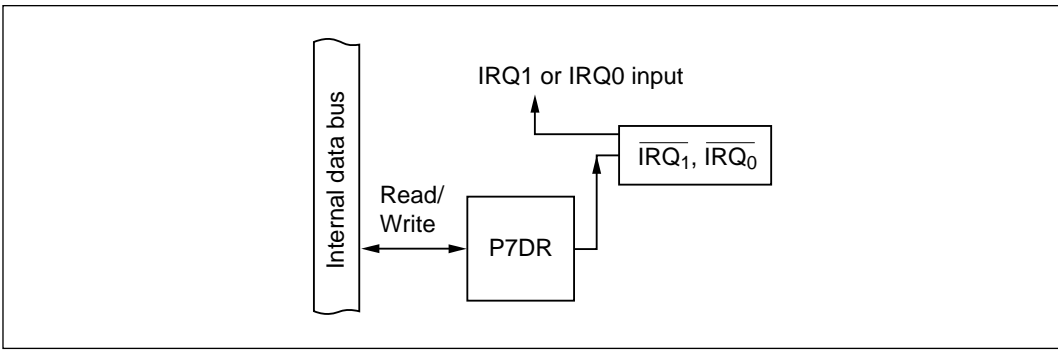

Figure 9-46 $\overline{\text{IRQ}}_1$ or $\overline{\text{IRQ}}_0$ Input Combined with General-Purpose Output (Modes 1 to 7)
(3) $\overline{\text{IRQ}}_1$ or $\overline{\text{IRQ}}_0$ Input Combined with General-Purpose Output (P7₁, P7₀: Modes 1 to 7): Figure 9-46 shows a block diagram illustrating the $\overline{\text{IRQ}}_1$ and $\overline{\text{IRQ}}_0$ input function when combined with general-purpose output. Table 9-36 indicates register read/write data. When P7₁ and P7₀ are used for $\overline{\text{IRQ}}_1$ and $\overline{\text{IRQ}}_0$ input they can also function as general-purpose output ports. If the general-purpose output function is used, however, output of a falling edge will cause an interrupt.